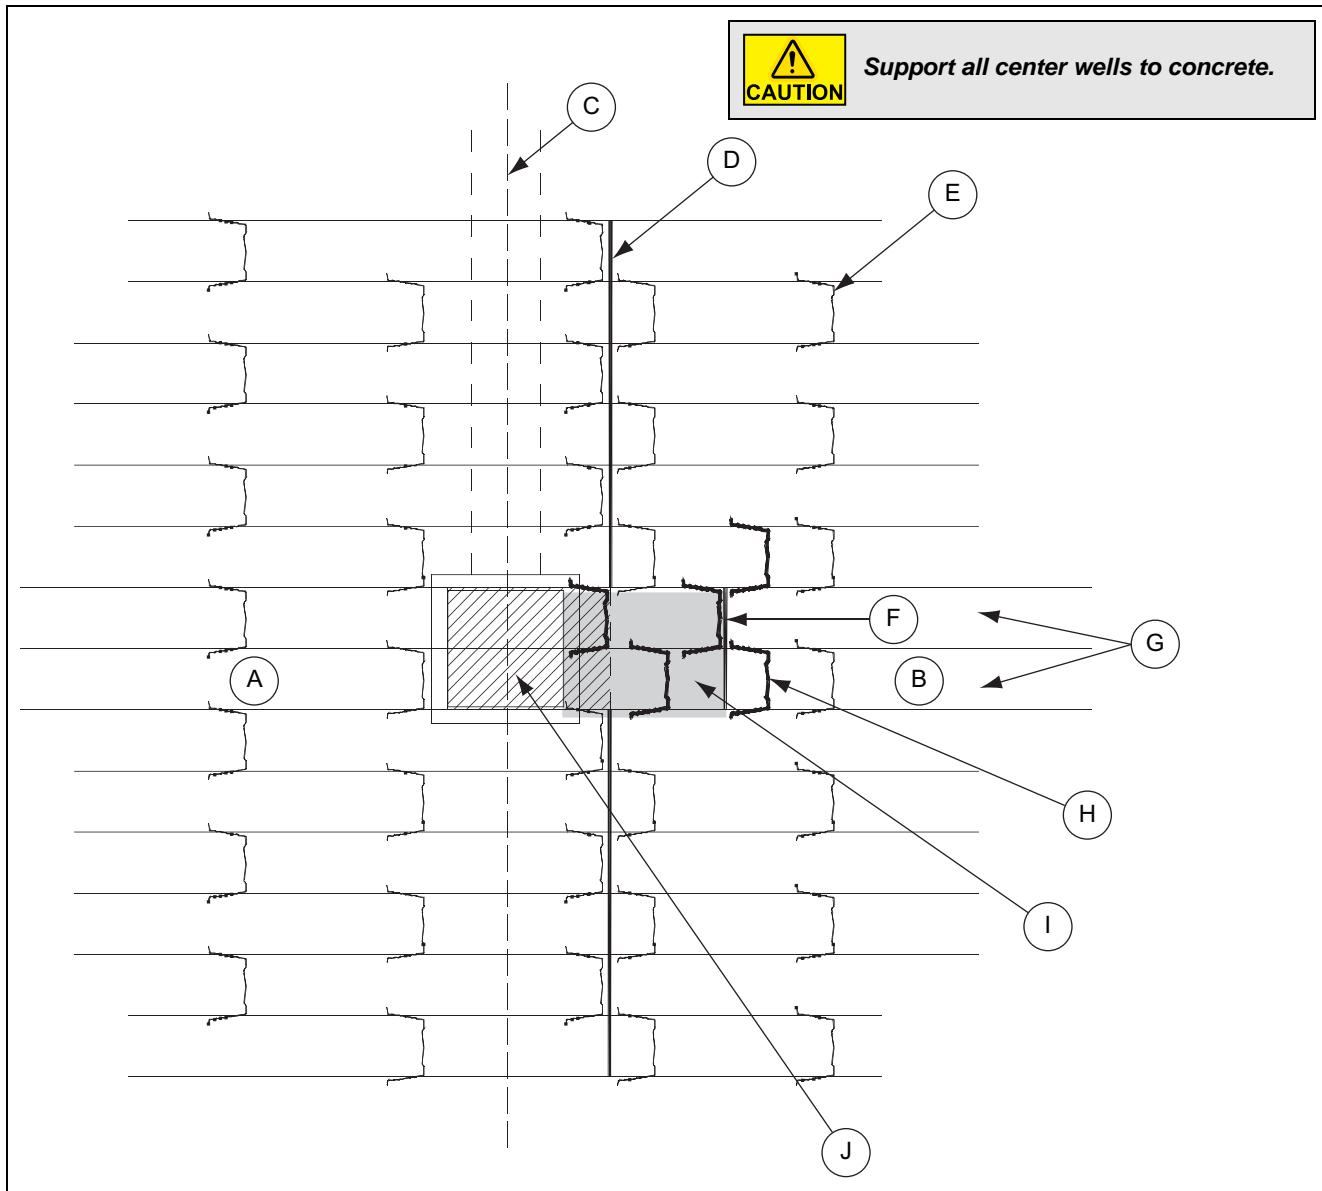

Figure 9A
6. Some floor planks will need to be spliced together. (*See Figure 9A on Page 23, Figure 10A on Page 24 and Plank Lengths Charts on Pages 25-26.*) Install plank length A first, then install the corresponding plank length B by butting plank B up against plank A. Make sure the planks are supported by a grandstand on each side of the splice. Continue until floor is complete.